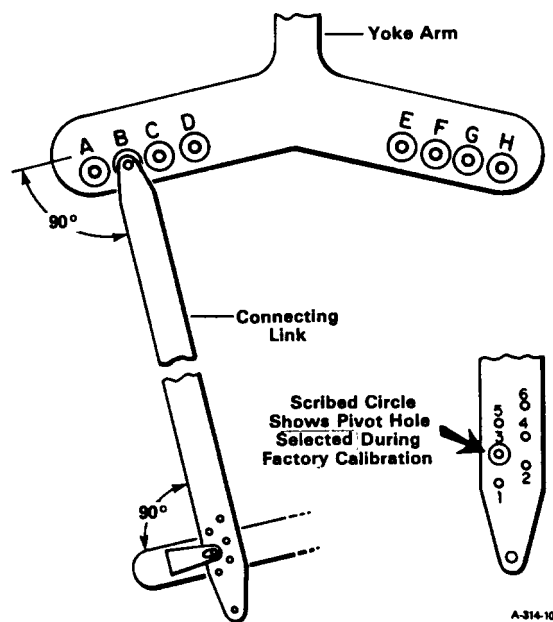

Figure 12. Scribed Pivot Holes
1. Remove connecting link at lower end, noting which pivot hole was used. The hole selected in original manufacture is identified by a scribed circle. See Figure 12.
2. See that upper end of link is attached to yoke arm pivot as originally manufactured. If position is unknown, refer to Figure 12 and use pivot hole B or G.
2. To correct linearity errors, select another hole in link as follows. Refer to Figure 12.